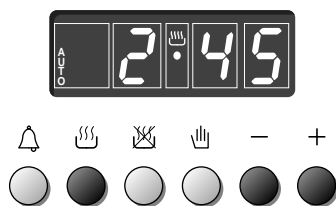

Fig. 4.5
1. Set the length of the cooking time by pushing the  button and the  button to advance, or  to go back if you have passed the desired time (fig. 4.5). The **AUTO** and the  symbol will be on.